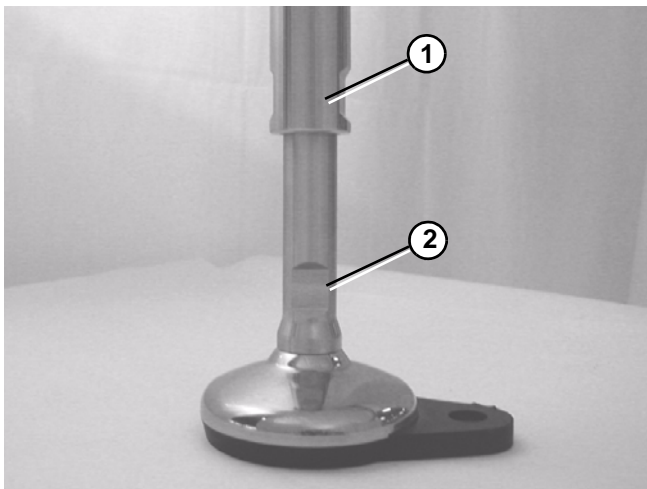

Figure 23
1. Loosen nut/thread cover on foot stem (**Figure 23, item 1**).
2. Rotate the foot stem using an adjustable wrench on the foot stem flats (**Figure 23, item 2**) to raise or lower the stand to the desired height.